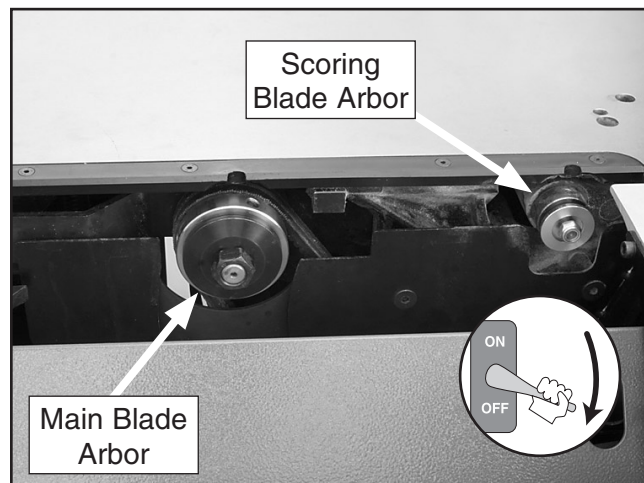

Figure 24. Main blade arbor components.
4. Slide the table all the way forward to access the blade arbor, loosen the flange bolt securing the lower blade guard, slide the bolt up, and pull open the lower blade guard (see **Figure 24**).